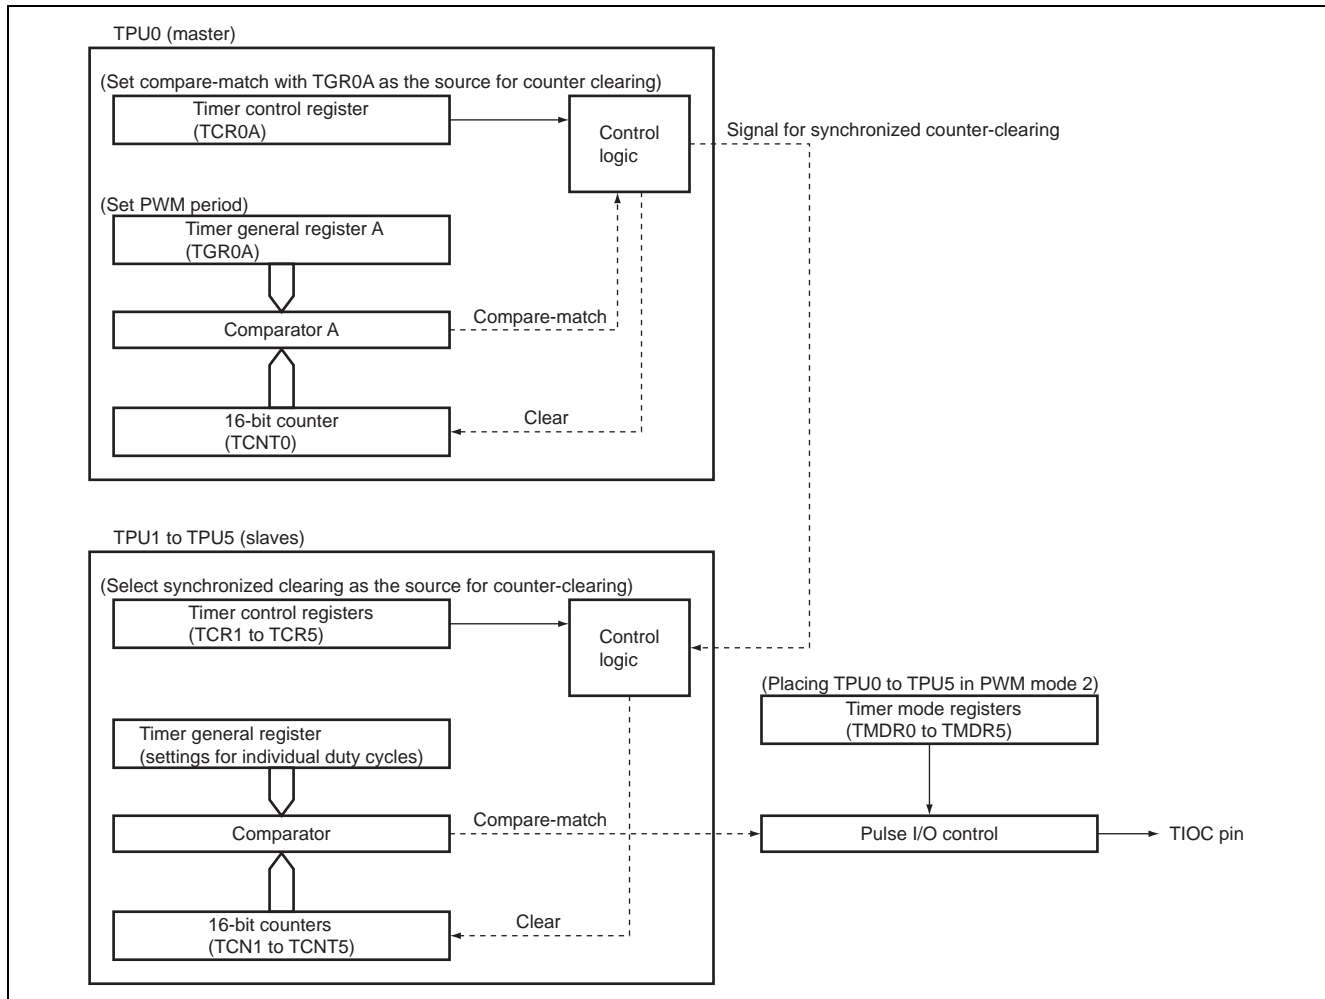

Figure 2 15-Phase PWM Output
- (1) TPU0 to TPU5 operate in synchronization to produce 15 PWM waveforms with different phases.
- (a) Figure 2 is a block diagram of how the TPUs are used in this sample task, which demonstrates how up to 15 PWM waveforms with different phases can be output through synchronized operation of the TPU functions (PWM mode 2).